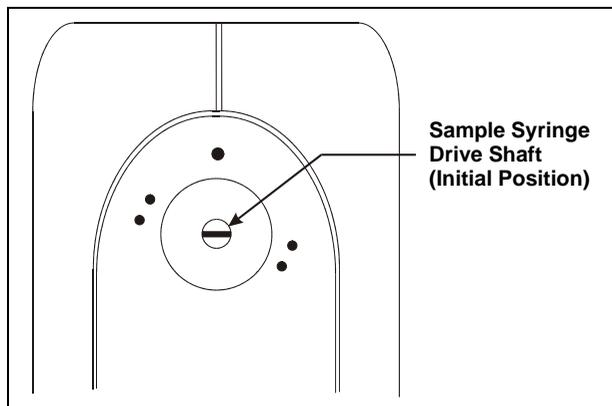

Figure 5-21. Sample Syringe Drive Shaft Initial Position
3. When the valve is removed, the syringe drive shaft is visible. When the syringe is in the initial position (the position selected when the valve was removed), the slot in the drive shaft should be horizontal (see Figure 5-21).